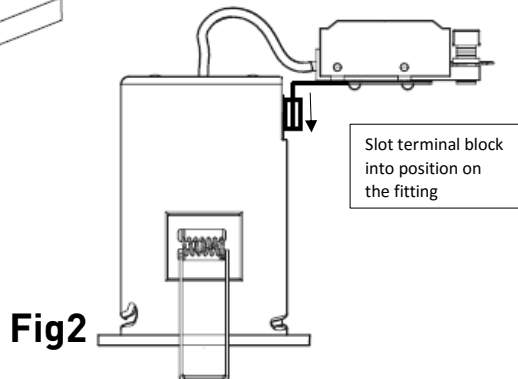

Fig2
- Slot terminal block into position on the fitting (see Fig 2)